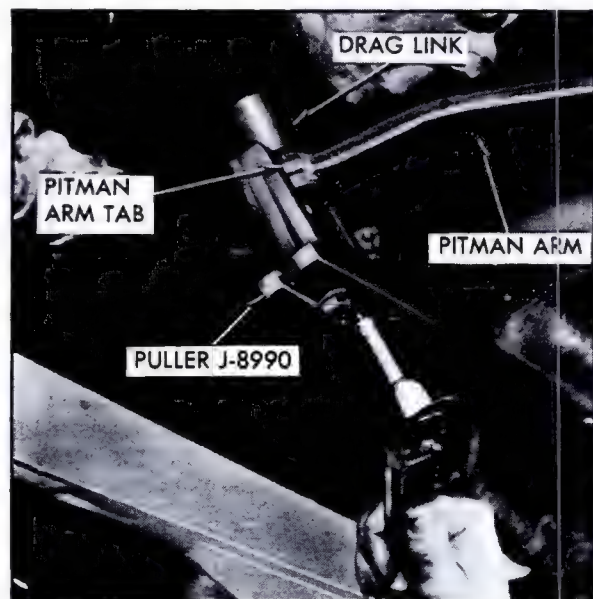

Fig. 9-8 Disconnecting Pitman Arm
1. Remove pitman arm from drag link, using Puller Tool, J-8990-01, Fig. 9-8. Make certain tool is positioned with puller engaging tabs on pitman arm. On 693, disconnect pitman arm from drag link as described in Note 28, steps 2, 3 and 4.